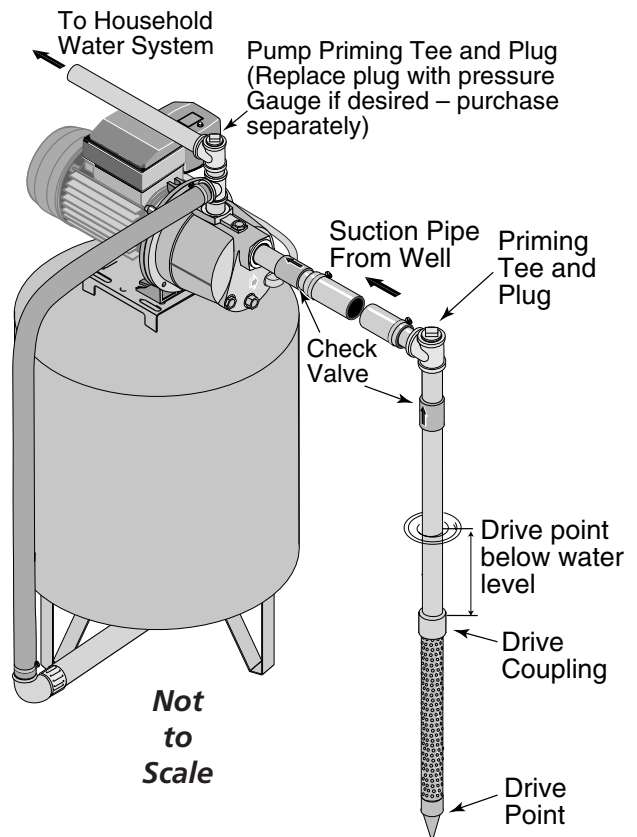

Figure 1 – Driven Point Installation
WELL POINT (DRIVEN POINT) INSTALLATION (FIGURE 1)
3. Use the fewest possible fittings (especially elbows) when connecting the pipe from the well point to the pump suction port. The suction pipe should be at least as large as the suction port on the pump (include a check valve as close to the well as possible - see Figure 1). Support the pipe so that there are no dips or sags in the pipe, so it doesn't strain the pump body, and so that it slopes slightly upward from the well to the pump (high spots can cause air pockets which can air lock the pump). Seal the suction pipe joints with teflon tape. Joints must be air- and water-tight. **If the suction pipe can suck air, the pump cannot pull water from the well.** If one well point does not supply enough water, consider connecting two or three well points to one suction pipe.